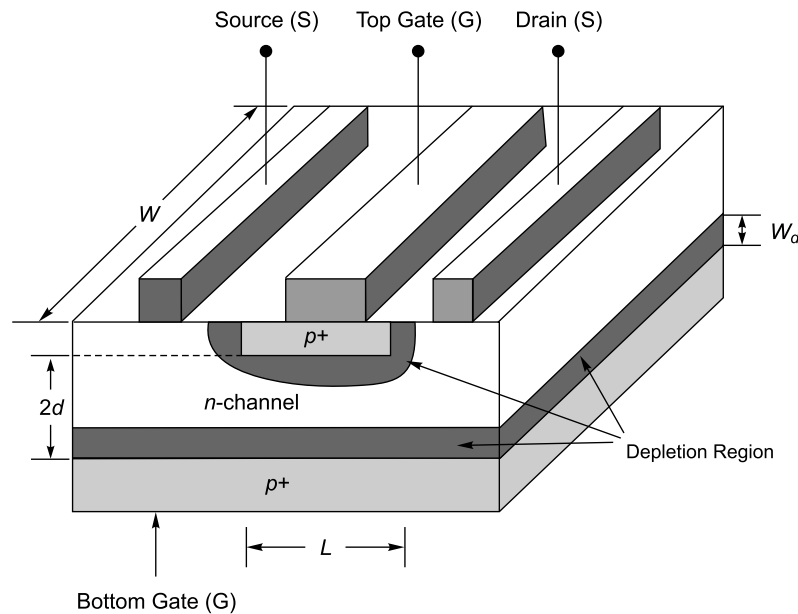

Fig. 1.3 Structure of an n -channel JFET
Figure 1.3 shows the structure of an n -channel JFET which has two p^+ regions on either sides of the n -channel. Actually, an n -type semiconductor bar has two p -type heavily doped regions (p^+ region) on the opposite sides of the n -channel. Hence, p^+ type region form two p^+n junctions. Two p^+ regions are connected internally and a single output terminal is available from the device and it is called gate (G) terminal.